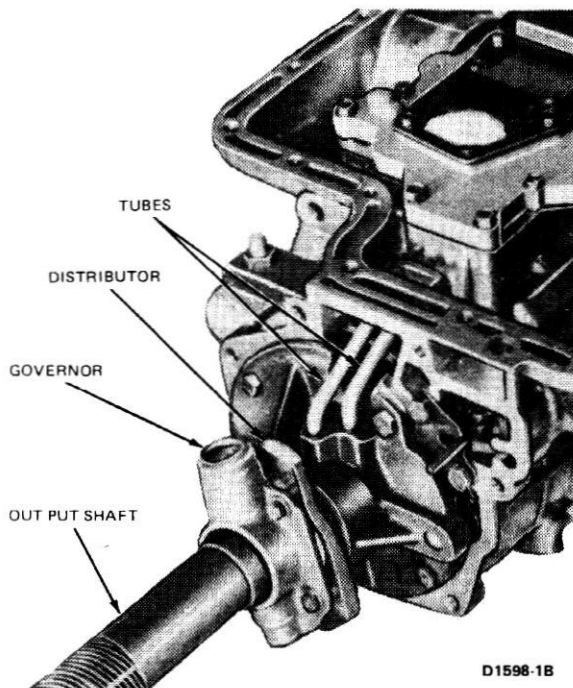

FIG. 10 Governor Installed
2. Remove the governor-to-distributor attaching bolts (Fig. 10).
1. Secure the governor (Fig. 10) to the distributor flange with the attaching bolts. Torque the bolts to specification.